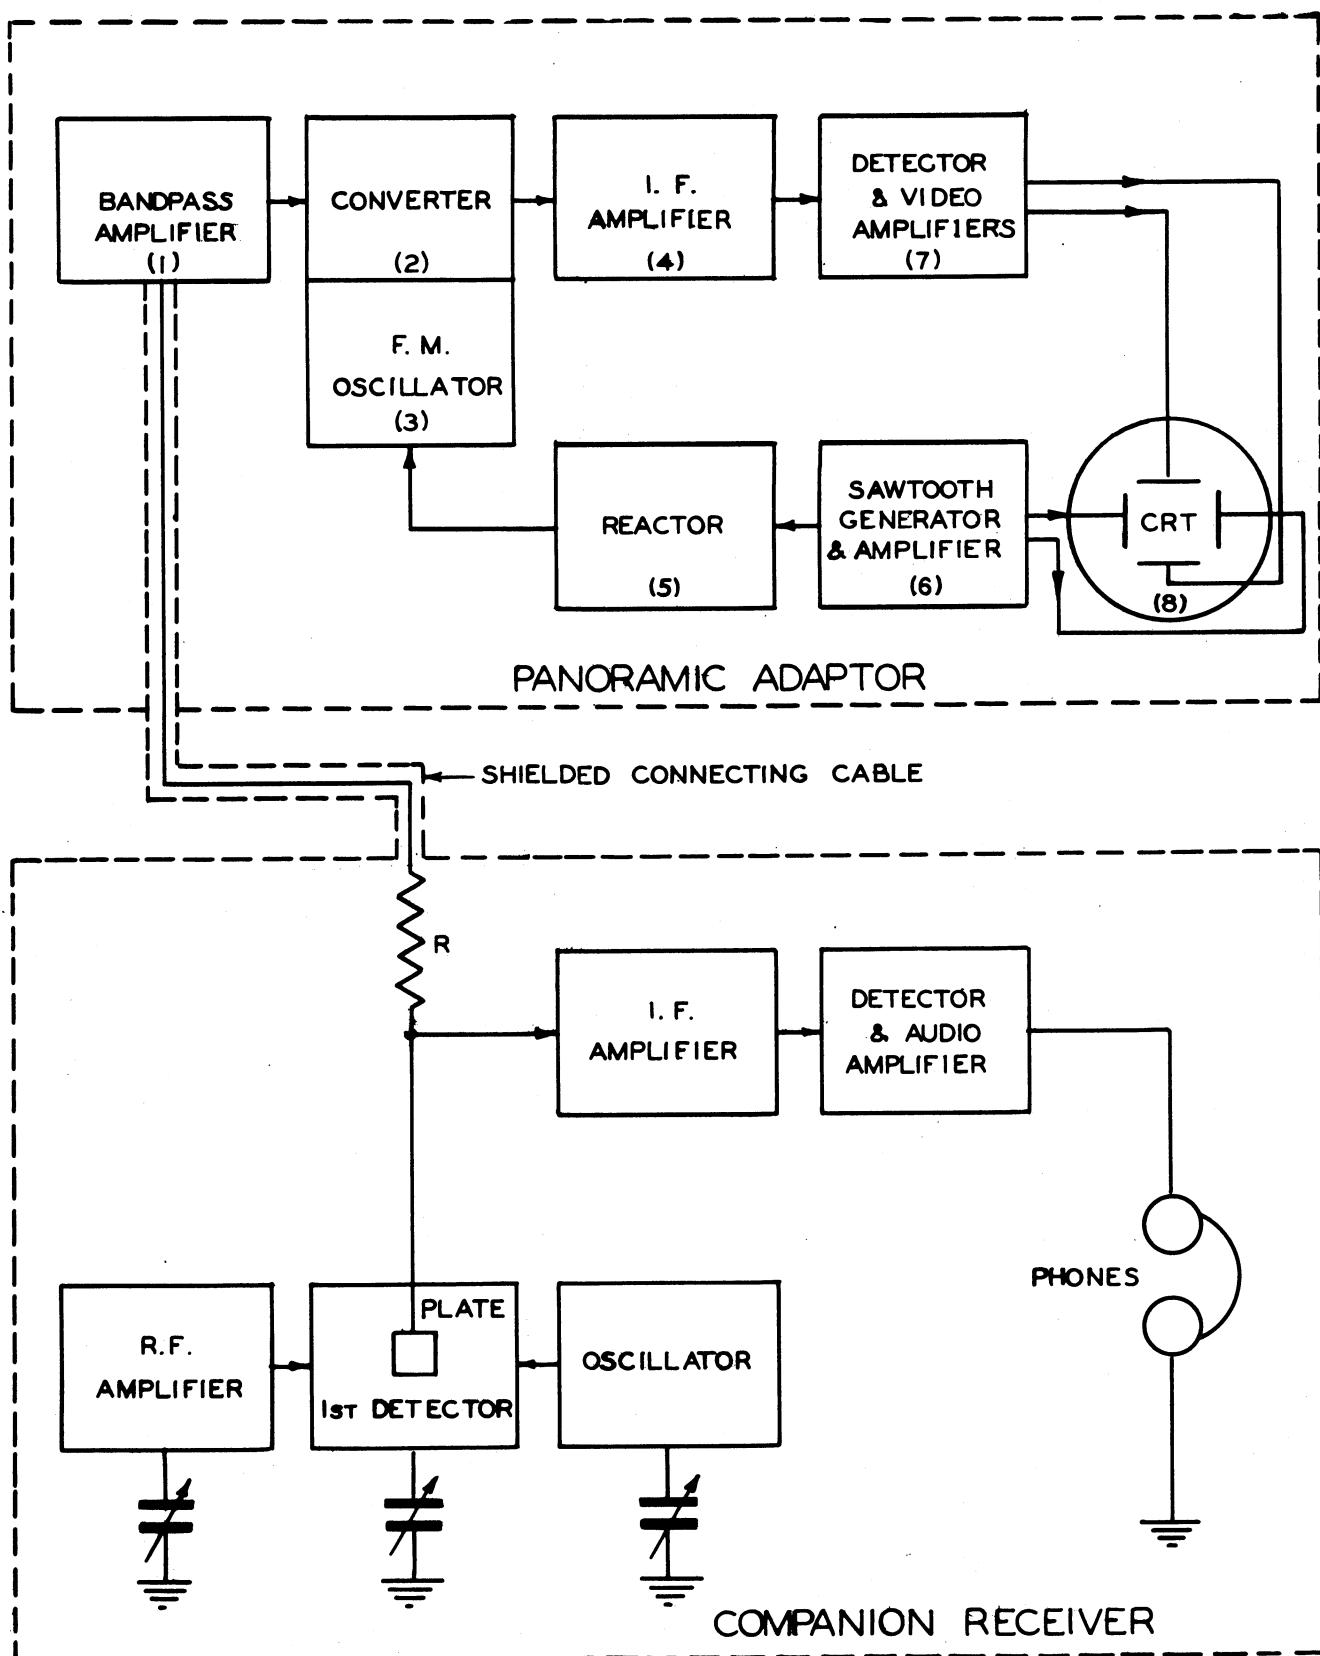
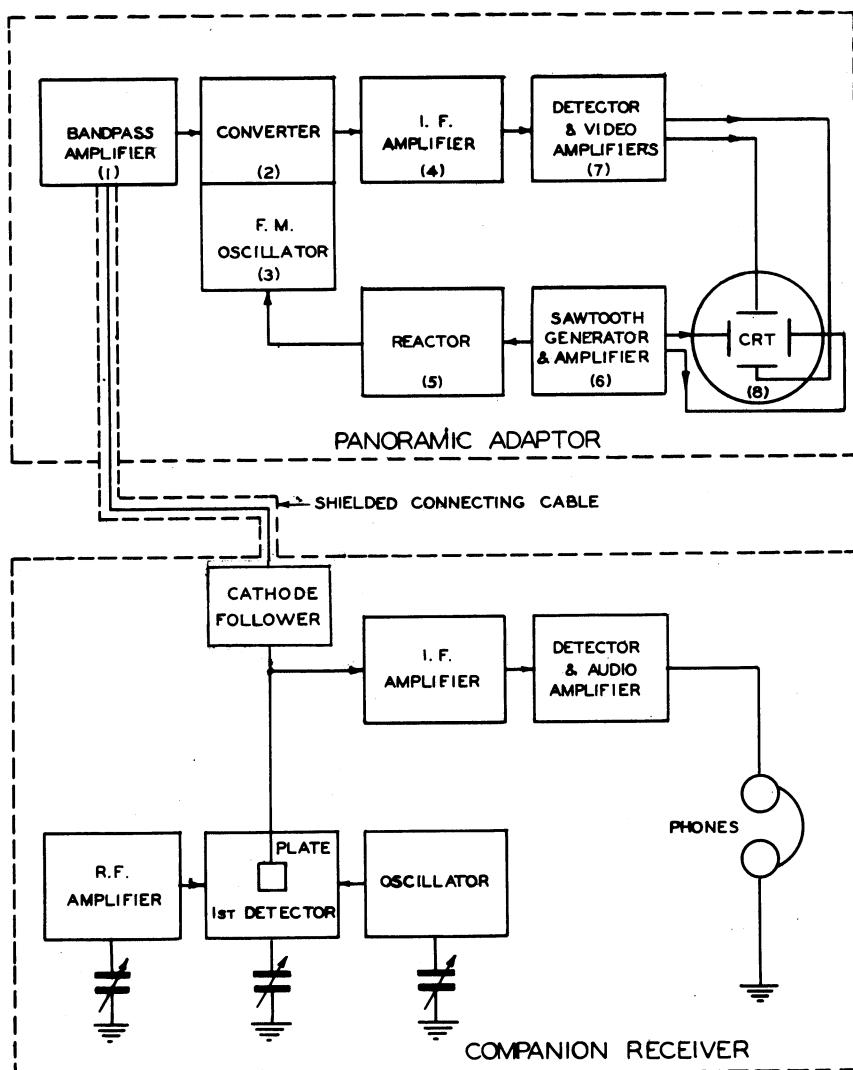

Figure 4-3. - Panoramic Adaptors, Navy Models RCX, RCX-1, RBW-2, and RBW-2M, Block Diagram.
**Figure 4-4. - Panoramic Adaptor,
a. Bandpass Amplifying Stage. - Refer to Block Diagram shown in Figure 4-3. for a description of the various steps by which Panoramic Reception is obtained. Block marked (1) is an R.F. bandpass amplifier (Fig. 4-3.) which is the input stage of the Panoramic Adaptor, and is connected to the plate of the first detector of the receiver, through the isolating or blocking resistor "R". This blocking resistor prevents detuning of the receiver and permits the latter to operate normally. Similarly, in the in the Block Diagram for Panoramic Adaptors RBU-1 and RBV-1, Fig. 4-4., the block marked (1) is an R.F. bandpass amplifier which is the input stage of the Panoramic Adaptor. Here, however, the input stage is connected to the plate of the first detector of the receiver through a cathode follower circuit to prevent detuning or loss of gain of the receiver.